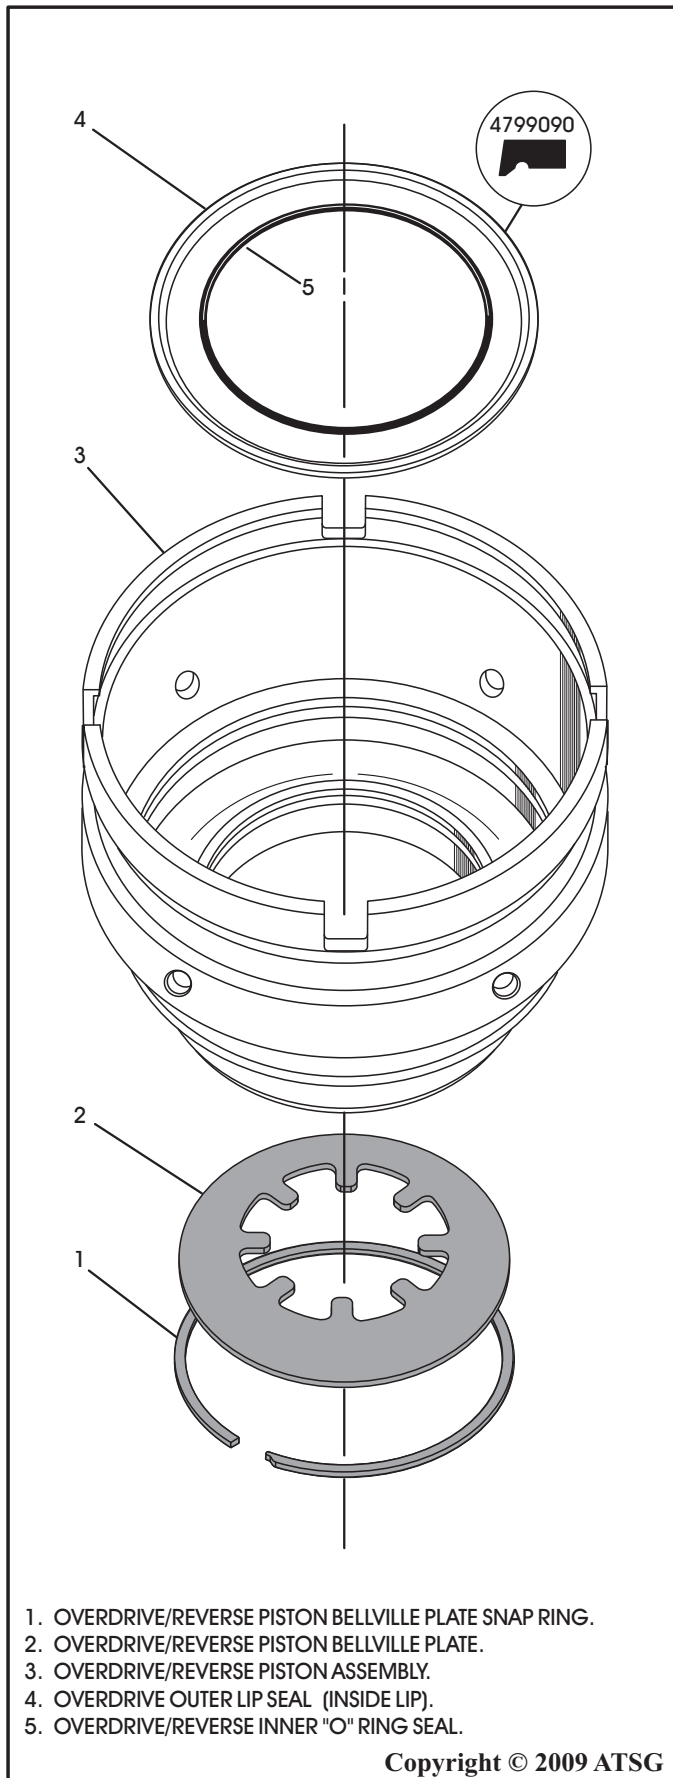

Figure 74
10. Install the overdrive/reverse bellville plate and the retaining snap ring as shown in Figure 74, if they were removed.
11. Install the overdrive outer lip seal into groove inside the overdrive/reverse piston, with the lip facing down, as shown in Figure 74.
12. Install the overdrive/reverse inner "O" ring seal into the groove in the overdrive/reverse piston as shown in Figure 74.